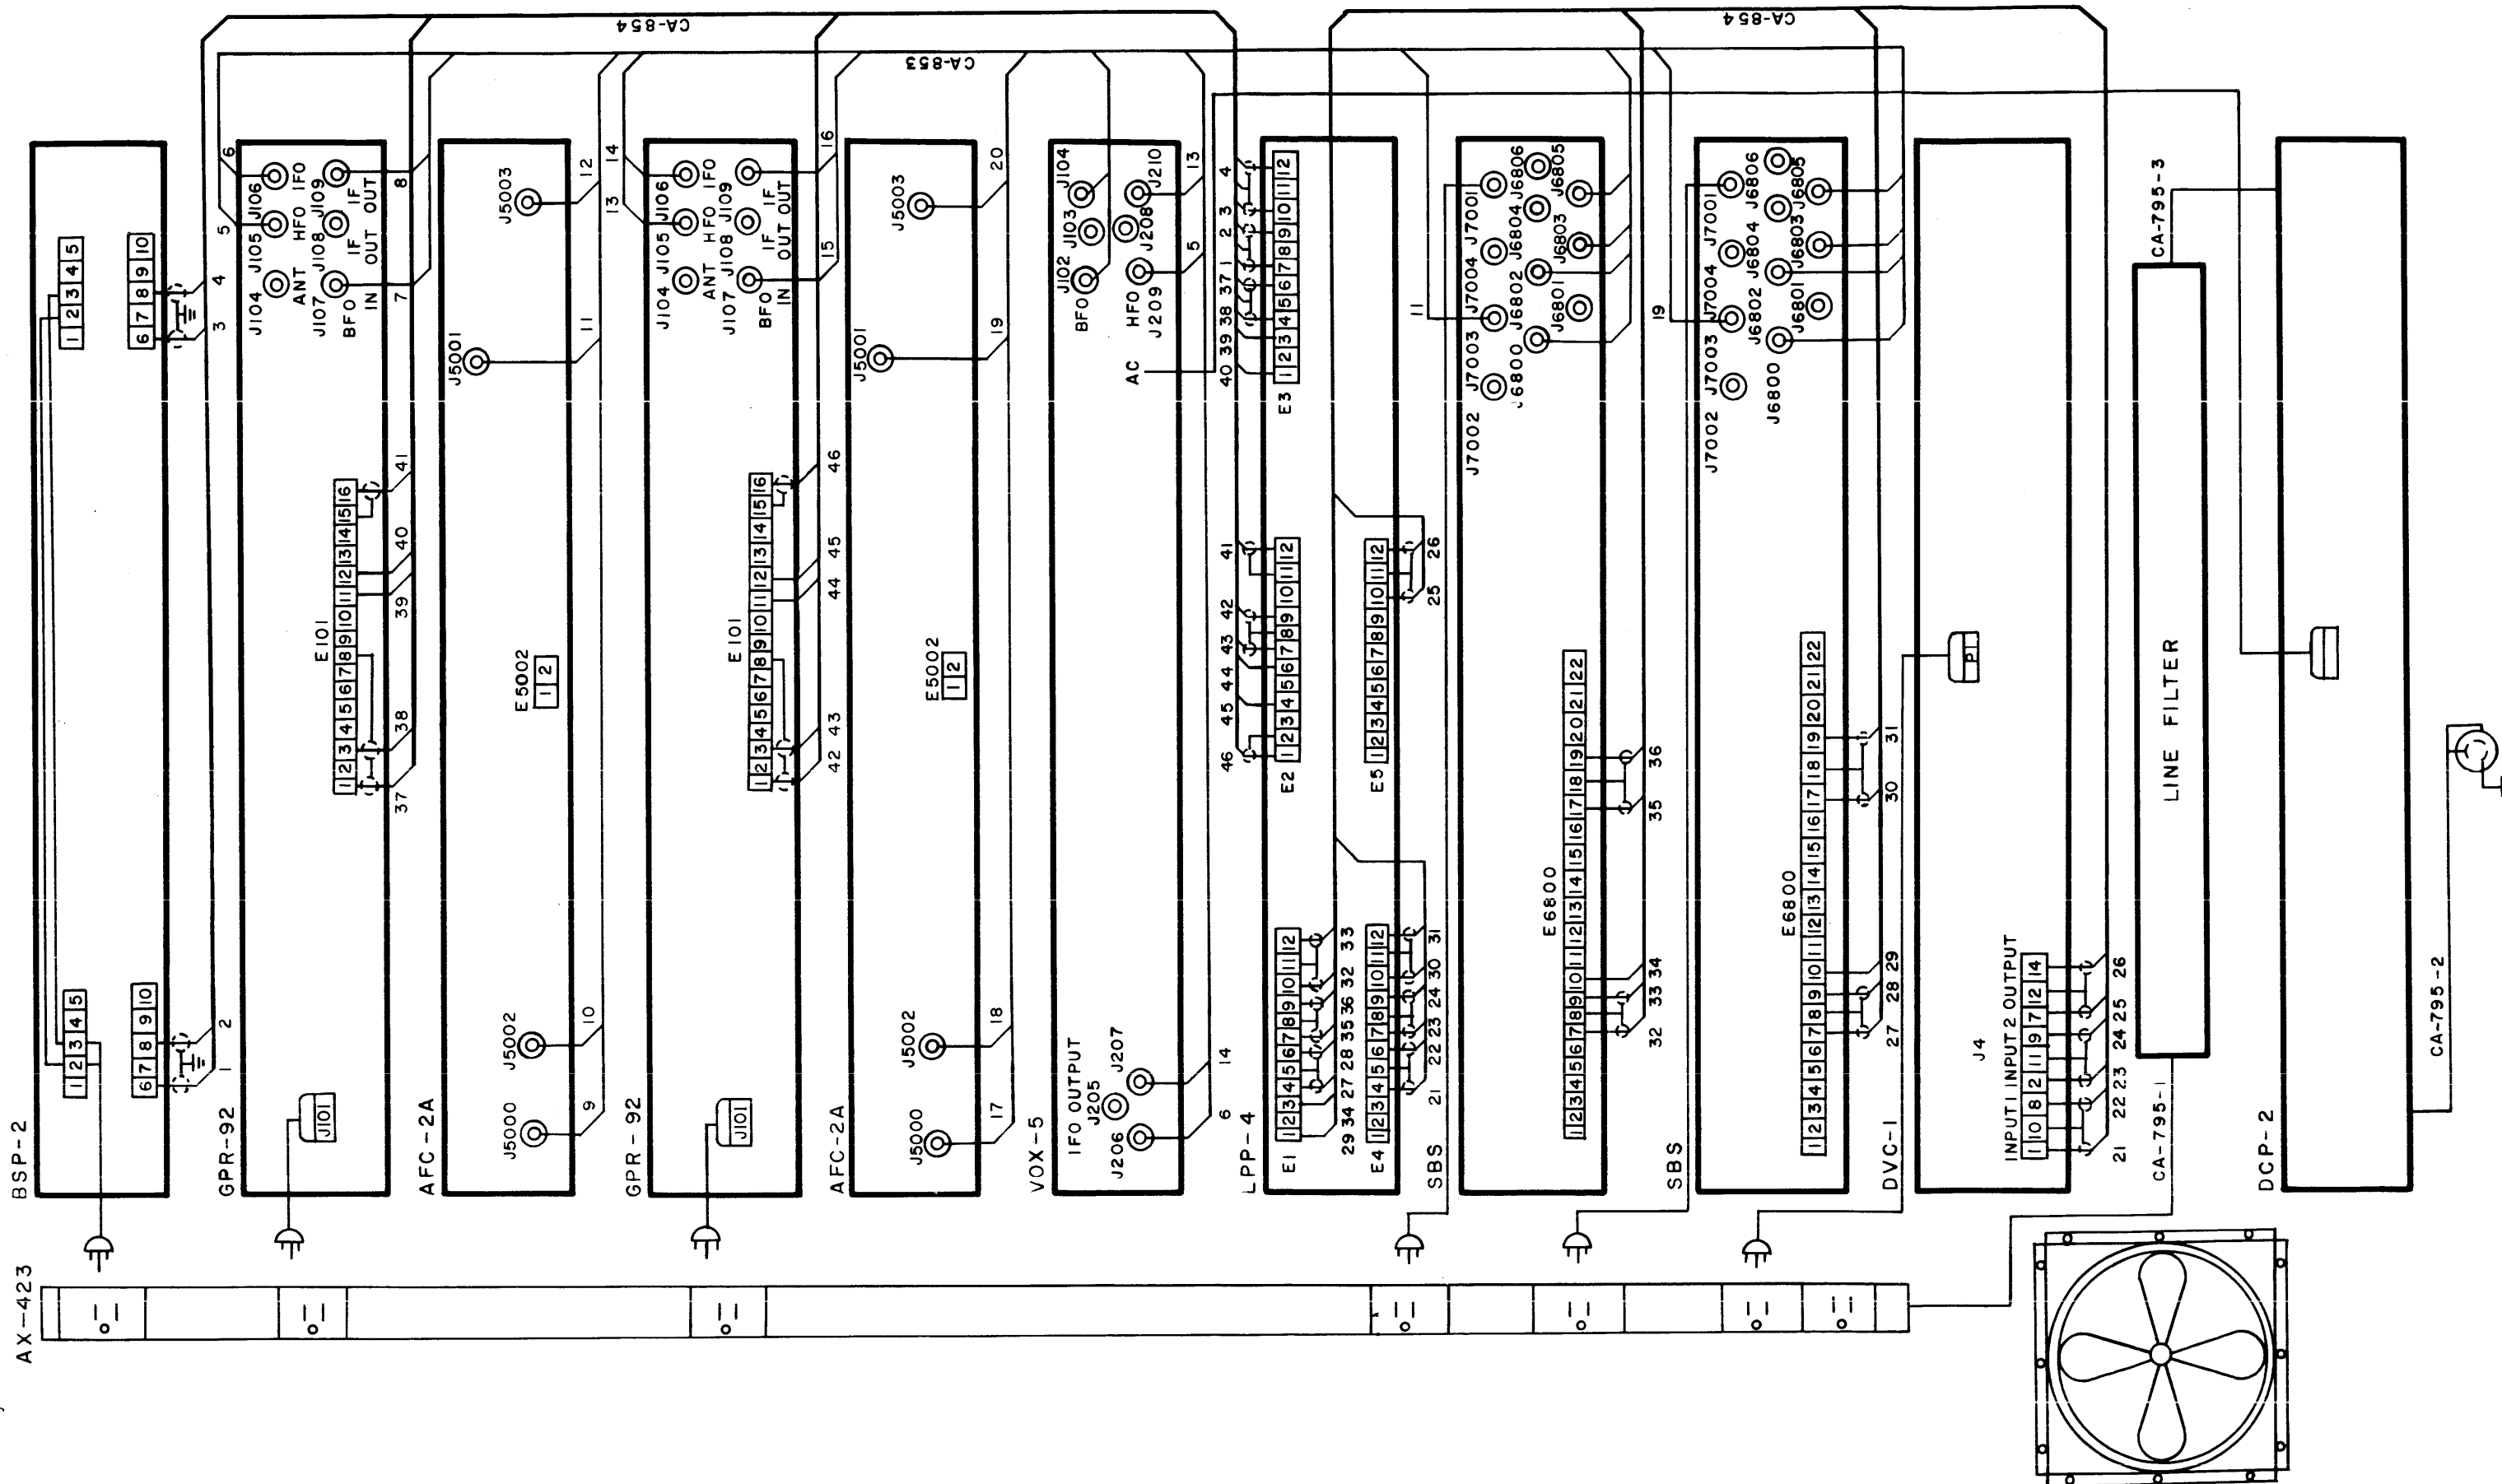

Figure 2-3. Cabling Connections, DDR-8
(2) CABLING CONNECTIONS - Figure 2-3 illustrates the cabling and connections between the various DDR-8 modular units. Refer to figure 2-3 and make connections as illustrated; secure cables to cable retractors (refer to appendix for further information concerning retractors).